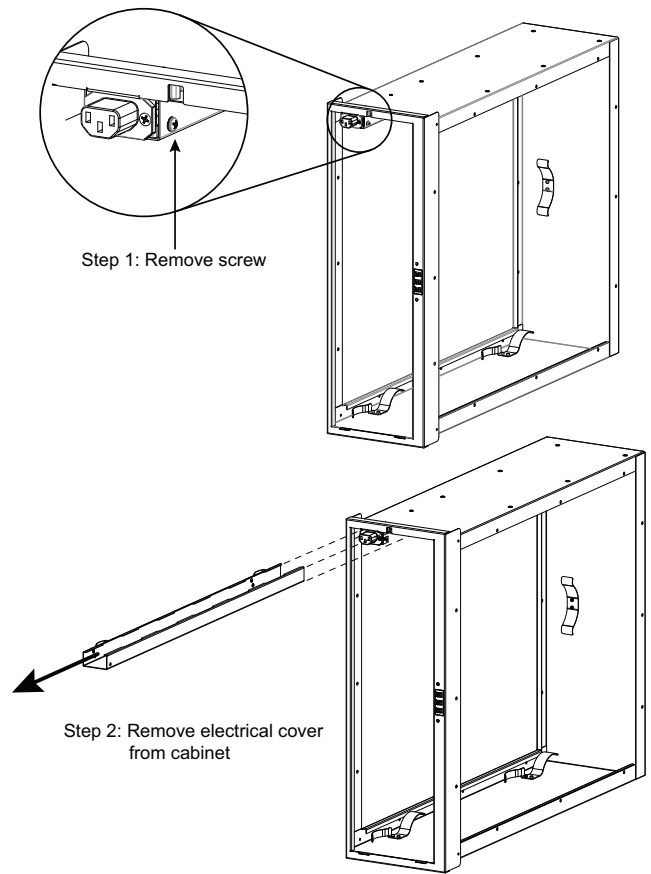

Fig. 9 - Removal of Electrical Tray Cover
- Mounting holes are provided for ductwork and furnace attachment. To access the mounting holes on the upstream flange of the purifier adjacent to the incoming power wiring, slide off the wiring cover as illustrated in Fig. 9. The wiring cover must be reinstated prior to operating the purifier.